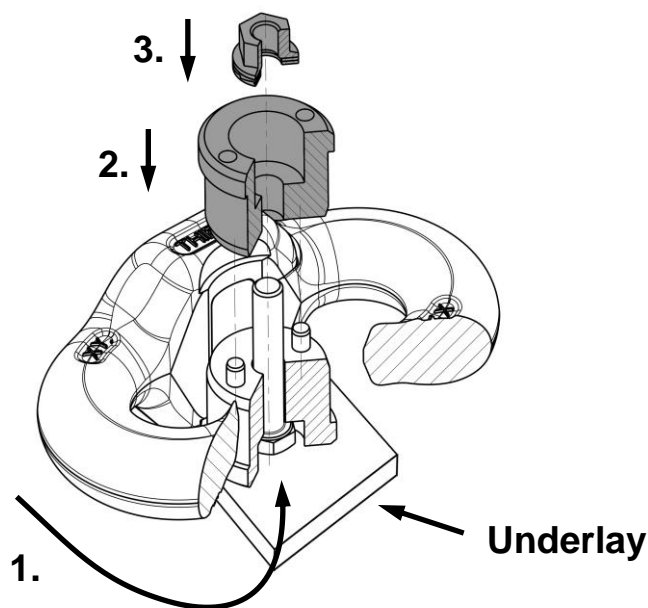

Figure 3: Assemble lock
- Move the lower lock half with the preassembled screw from the bottom into the connector (step 1, Figure 3) and position it on a pad or flat surface. The following assembly is made simpler if the two dowel pins align with the chain center line.
- Place the upper lock half (Step 2, Figure 3) centrally above the lower lock half. Take care, that the holes to accept the dowel pins align correctly. Underlay the lower lock half.